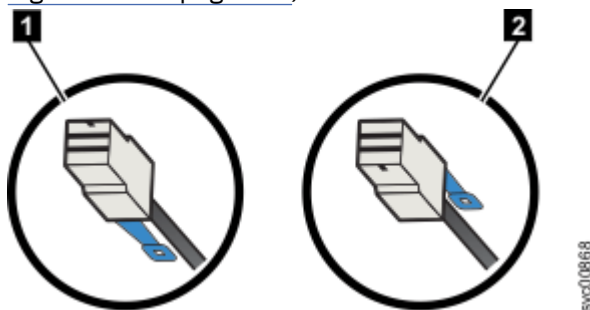

Figure 134. SAS cable connector orientation
- For 2145-24F or 2145-12F expansion enclosures, the blue pull tab must be below the cable (**1** in Figure 134 on page 114).
- For 2145-SV1 or 2145-DH8 nodes and 5U expansion enclosures, the blue pull tab must be above the connector (**2** in Figure 134 on page 114).